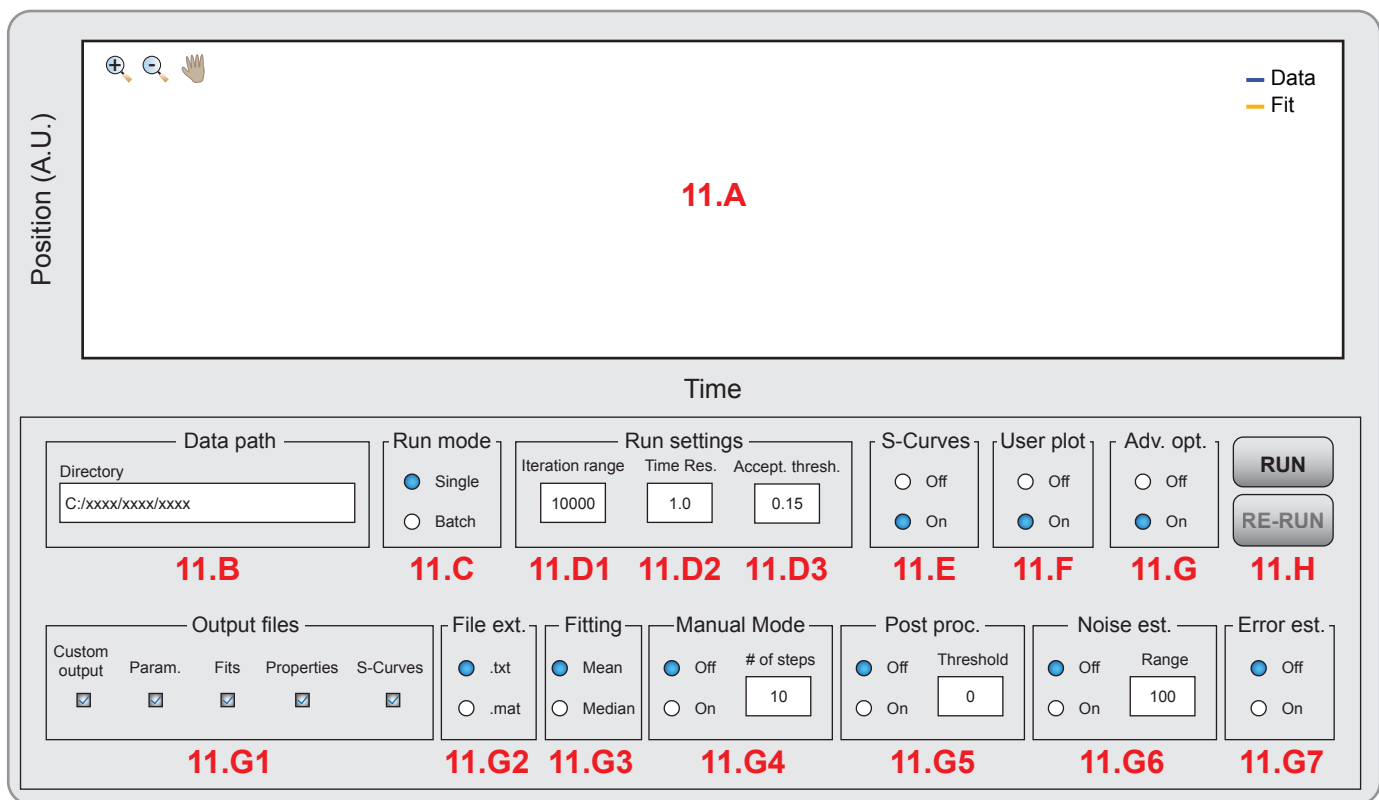

Figure S8: Graphical user interface of *AutoStepfinder*
11. After pressing “Run”, a GUI will appear, in which the fitting procedure will be executed and fitting parameters can be adjusted (Figure S8).
- 11D. *Run Settings:* The Run Settings box provides a minimal set fitting of parameters that allows one to tune the fitting procedure (Figure S8).
11G. *Adv(anced) Options*: Enabling the advanced option box displays the advanced setting of *AutoStepfinder* (Figure S8). Important: It is noted that these settings are intended for advanced users that have full understanding on the step fitting procedure.